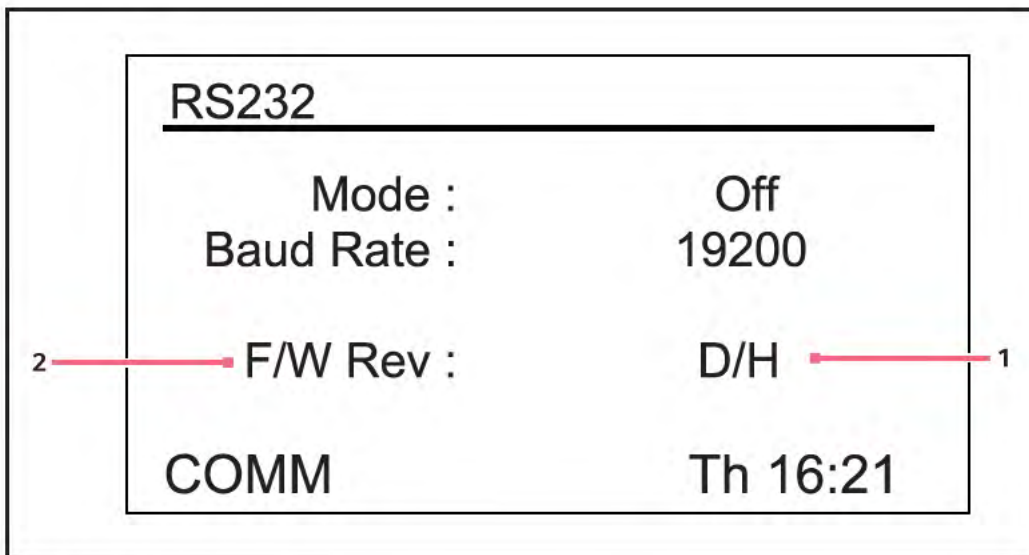

Fig. 9-7: RS232 screen
This screen (see Fig. 9-7 on p. 57) is used only if you have connected a personal computer to the RS-232 port (see *Software interfaces on p. 39*). Here you can select the RS-232 port's *Mode* and the *Baud Rate* appropriate to your PC.
1. Turn the control knob to highlight the current setting (*Off* in the sample screen, (see Fig. 9-7 on p. 57)), then click the knob in.
2. Turn the control knob left or right until the desired mode setting appears (see *Turn the control knob to highlight the current setting (Off in the sample screen, (see Fig. 9-7 on p. 57)), then click the knob in. on p. 58*).
1. Turn the control knob to highlight the current setting (19200 in the sample screen, (see Fig. 9-7 on p. 57)), then click the knob inward once.